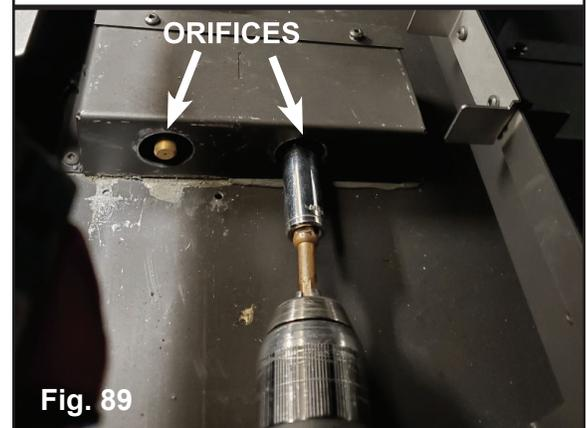

Fig. 89
3. Convert the burner orifices: (**Fig. 89**)